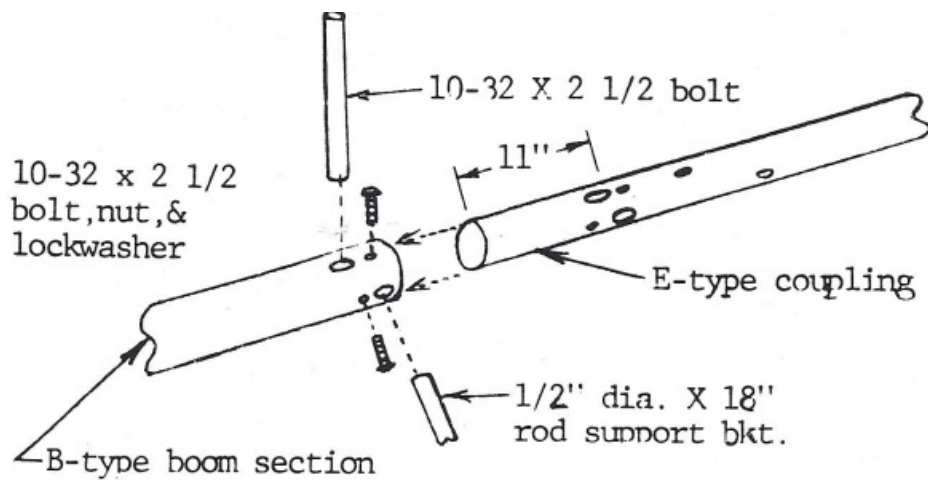

figure 3
- Install the E-type coupling (identified from fig.) in the appropriate end of the B-type boom section, as shown in fig.3. Insert 2 of the 1/2" dia rod support brackets through both the boom and coupling sections after aligning the 1/2" holes. Again bolt the rod support brackets in place with 10-32 X 2 1/2" bolts. Note: You will not be able to install nuts and lockwashers inside the boom.